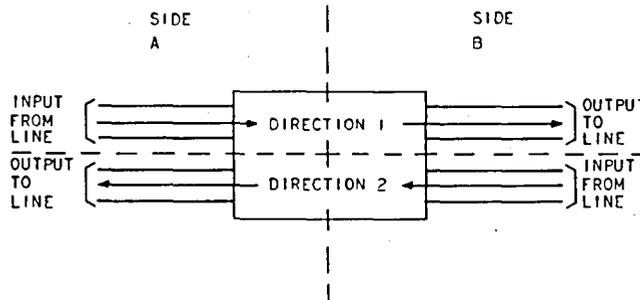

Fig. 1—WRR-1 Direction of Transmission
3.02 The repeater has two directions of transmission. The A-to-B direction of transmission is designated direction 1. The B-to-A direction of transmission is designated direction 2. These directions must be assigned (Fig. 1).